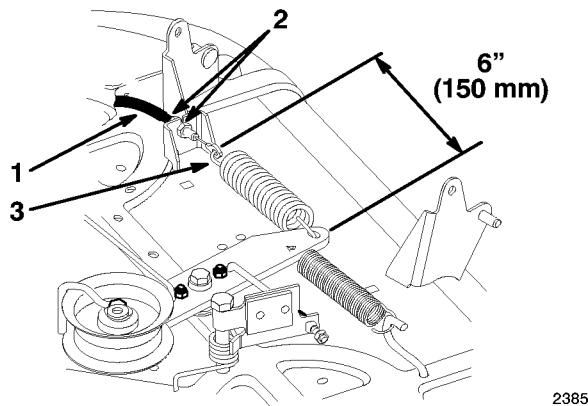

Figure 47
12. Engage blade control (PTO) lever on dash. Measure distance between hook ends of idler spring (Fig. 47). Adjust jam nuts so 6" (150 mm) dimension is obtained (Fig. 47).